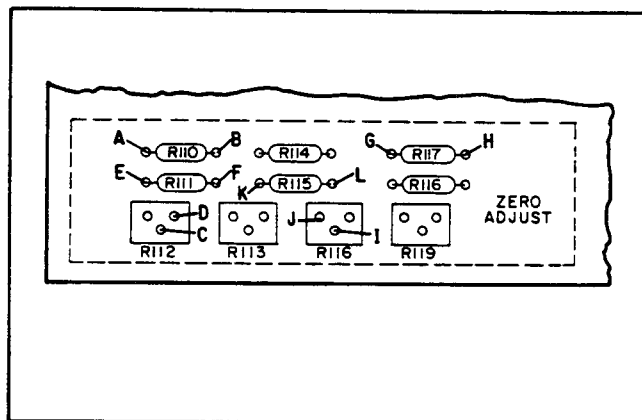

Figure 5-9. Zero Adjust Section of Main Circuit Board
- Connect decade resistance box between pads in zero adjust section of A1 main circuit board that are marked "A" and "B" in Figure 5-9. (These pads are for R110).
- Solder a jumper between pads in zero adjust section of A1 main circuit board that are marked "C" and "D" in Figure 5-9.
- Connect decade resistance box between pads marked "E" and "F" in Figure 5-9. (These pads are for resistor R111).
c. Connect decade resistance box between pads in zero adjust section of A1 main circuit board that are marked "G" and "H" in Figure 5-9. (These pads are for R117.)
- b. Solder a jumper between pads in zero adjust section of A1 main circuit board that are marked "I" and "J" in Figure 5-9.
- c. Connect decade resistance box between pads marked "K" and "L" in Figure 5-9. (These pads are for R115.)